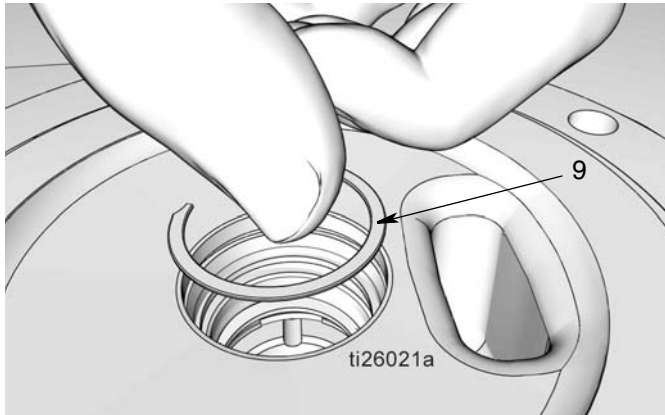

FIG. 41
- j. Install clip (9) (FIG. 41). You should hear a “click” when the retaining clip is correctly seated in the groove.